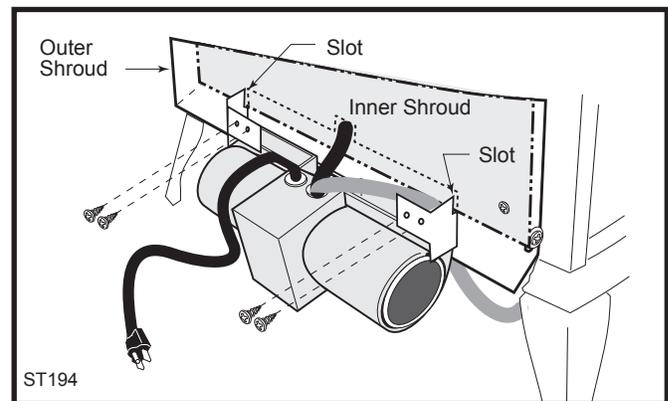

Fig. 11 Position the fan to engage the inner shroud with the fan bracket slots and secure with sheet metal screws.
7. Position the fan assembly so the ducts slide between the inner and outer shroud. The inner shroud should engage with the two slots in the ends of the bracket so the bracket and shroud are interlocked. (Fig. 11) Secure the bracket with the four sheet metal screws provided in the finish bag.